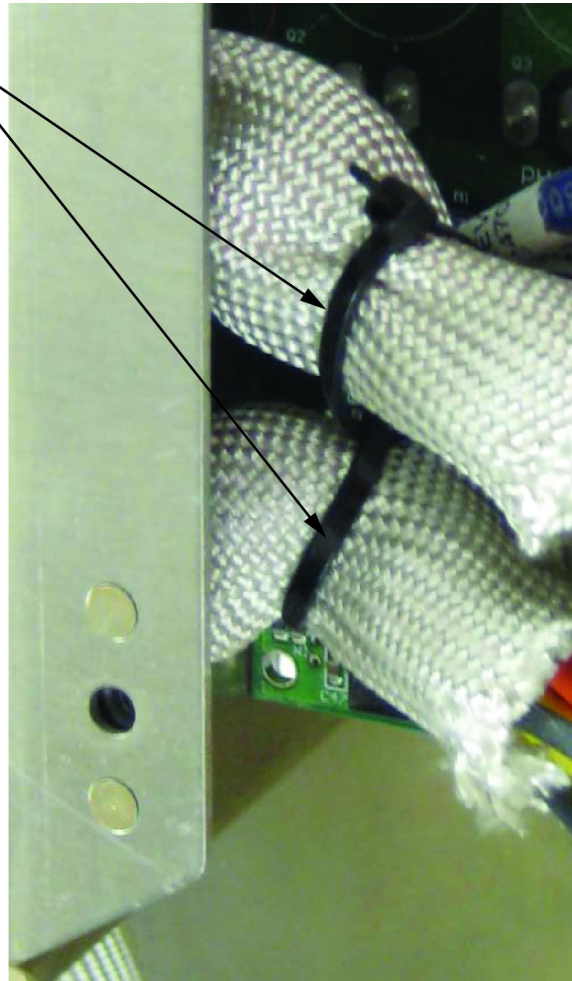

Figure 9
(16) Install two tie wraps, P/N MS3667-4-0 or equivalent (1, Figure 9) around the braided sleeving near where the cables exit the side of the controller box. Install the tie wraps in such a way so that one tie wraps loop through the other is a daisy chain fashion. Cinch both tie wraps down to assist in “tucking” the cable assemblies into the enclosure as noted to support cable routing before the back cover is reinstalled.